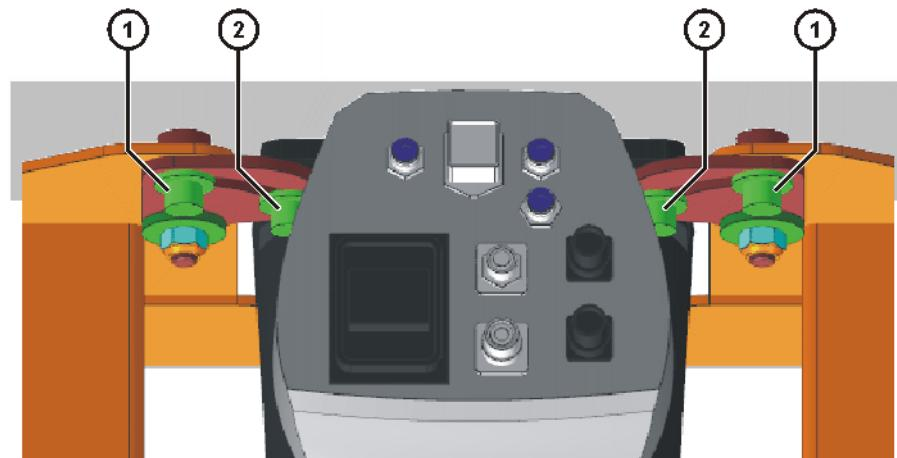

Fig. 8-12: Removing screws from the rear
13. Unscrew 2 M12x30 Allen screws (rear Allen screws) and washers from the rear of the base frame (**>>> Fig. 8-12**).